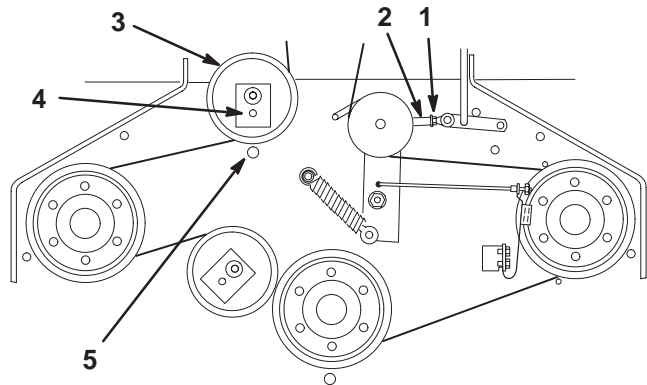

Figure 50
- Loosen locknut on turnbuckle (Fig. 50).
- Rotate turnbuckle toward rear of mower to increase tension on belt. Rotate turnbuckle toward front of mower to decrease tension on belt (Fig. 50).
- If the belt is still loose after making adjustments to the turnbuckle, reposition the rear idler pulley to the front hole. The belt guide next to the pulley must also be moved to the front hole (Fig. 50).